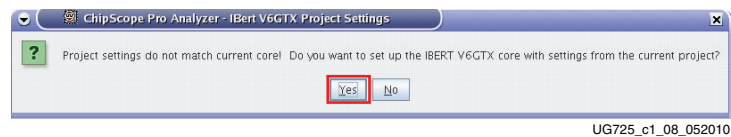

Figure 1-8: Core Settings Dialog Box
- When the dialog box opens asking to set up the core with settings from the current project, click **Yes** (Figure 1-8).